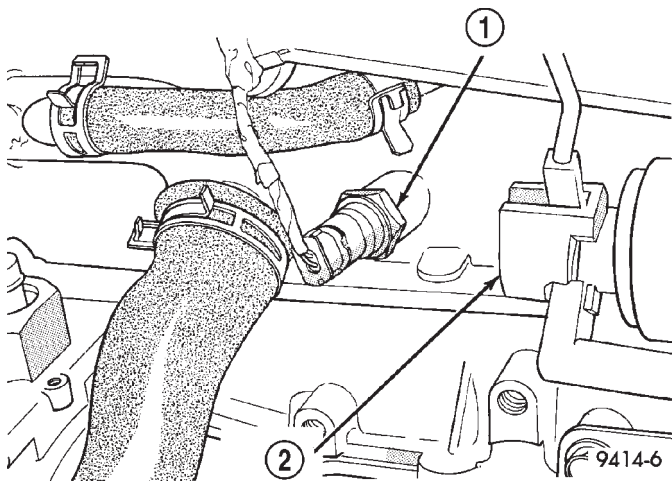

Fig. 30 Knock Sensor
(8) Disconnect knock sensor electrical connector (Fig. 30).